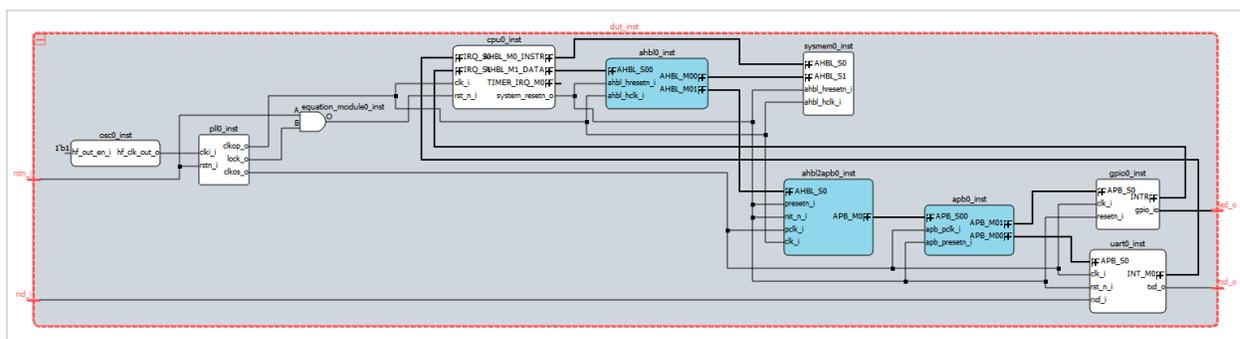

Figure 2.103. Whole SoC Design
- Click the plus sign  of this `dut_inst` DUT block. You can see the whole SoC Design (Figure 2.103). Click the negative sign  to close the expanded bus.